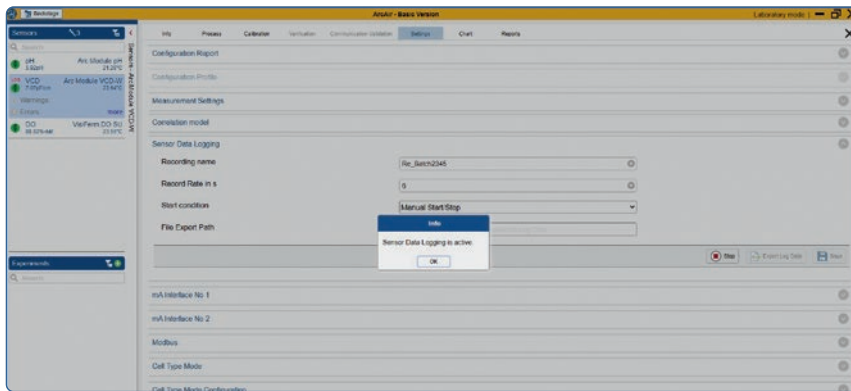
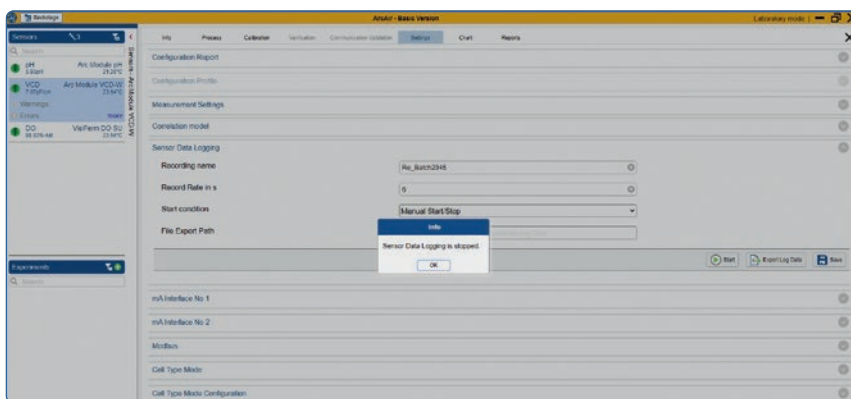

Figure 31: Example Screen of activated Sensor Data Logging.
Figure 32: Example Screen of inactivated Sensor Data Logging.
- 5) The configuration is confirmed with a pop up message (Figure 31).
Depending on the settings of point 3. The Sensor Data Logging will be started or stopped (see Figure 31 and Figure 32). Once the Sensor Data Logging has been started, a red «LOG» will indicate the data logging for the sensor in the Sensor List (see Figure 31).